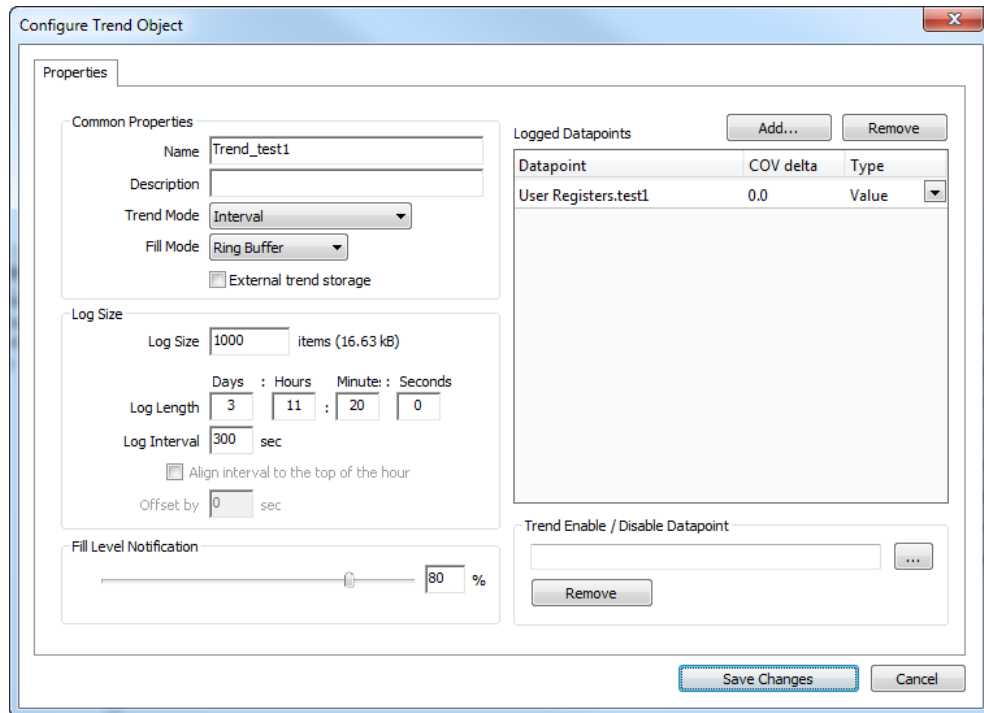

Figure 140: Basic Trend Object Configuration
3. In the **Create New Trend Object** dialog (shown in Figure 140) enter a name and optionally a description for the trend log object.